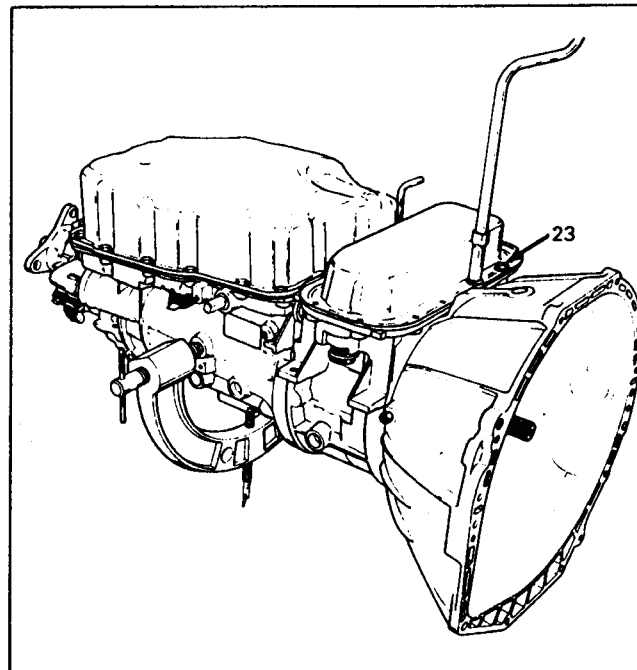

Figure 3
5. Turn transmission in fixture so that the oil pans are up (See Figure 3).
6. Remove the 12 adapter case pan bolts using a 10mm socket (See Figure 3).